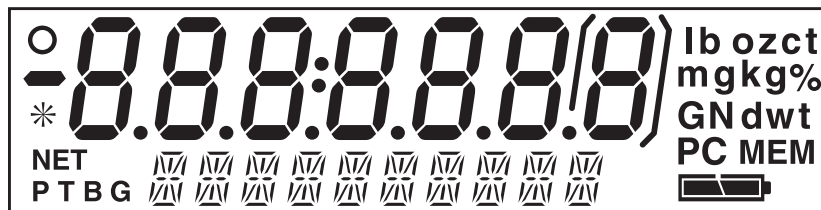

Figure 4-1. LCD Full Display for Models AV.
1. Turn the balance on by pressing **ON/ZERO Off**, all segments are enabled and displayed briefly, then followed by a software revision number. See Figure 4-1 for full display.